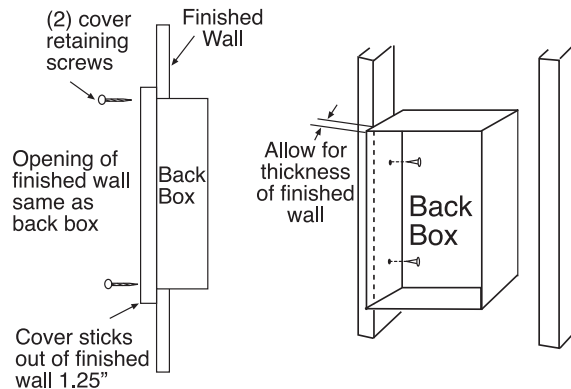

Figure 2
1. Determine which side of the back box is to be mounted against a stud or ceiling joist. (see Figure 2). Allow for the thickness of the finished surface when installing the back box. The edge of the back box must be installed flush with the finished surface. Markings on the side of the back box for 1/2" or 5/8" finishing wall are provided.
3. Position the back box on the stud or joist location desired and secure using two nails or screws as shown in figure 2.
NOTE B: Lead holes for a #8 sheet metal screw have been provided in the sides of the back box. (See Figure 2).
1. Determine which side of the back box is to be mounted against a wall stud or ceiling joist. See Figure 2.